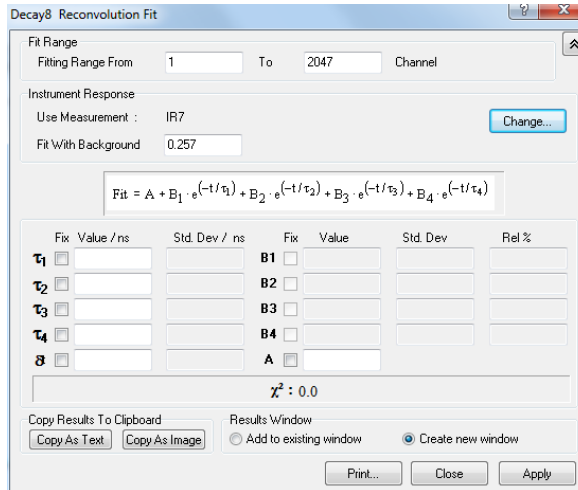

Figure 7-8: Reconvolution Fit dialogue box
4. Select **Data >> Exp. Reconvolution Fit...** This will open up a the dialogue box as shown in Figure 7-8. The fitting range shown on top of the dialogue box is inherited from the zoom in step 3 above.